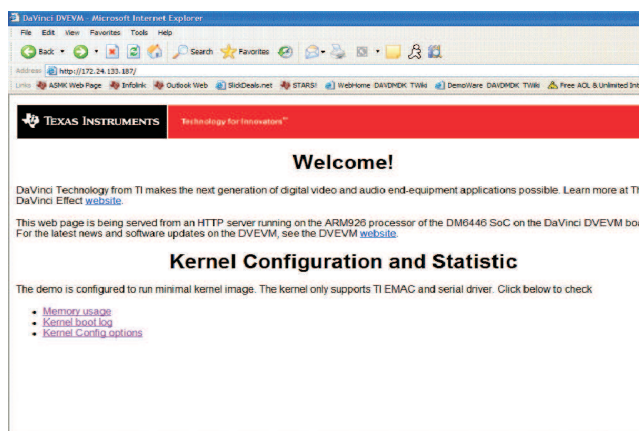

Figure 4. Web Screen Connected to the DVEVM Web Server
4. Connect to the EVM web server by typing the EVM IP address in the URL address box. See Figure 4.